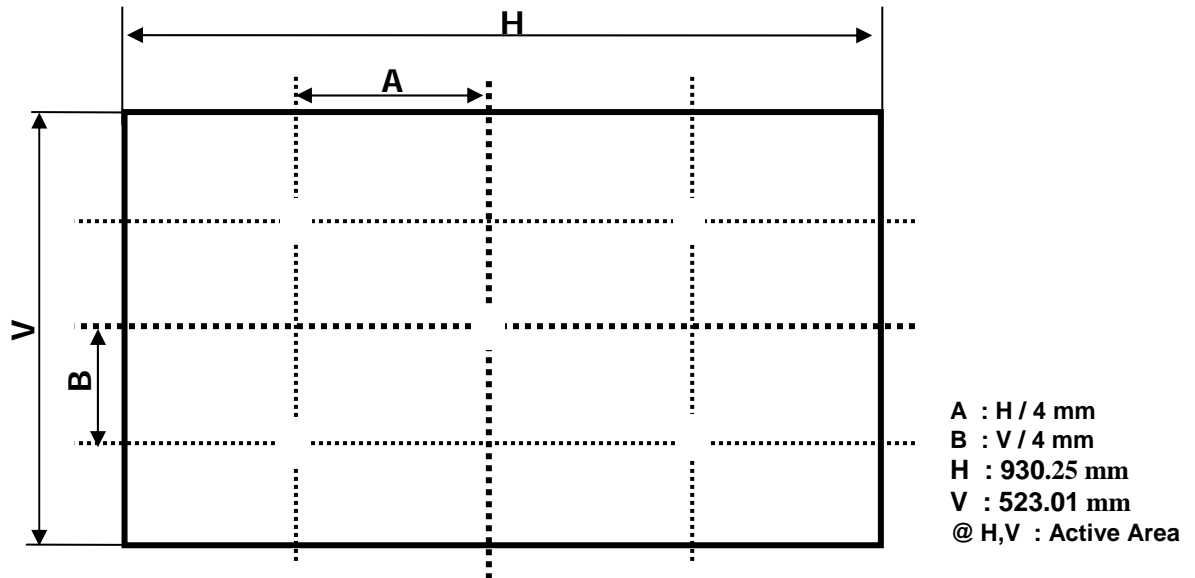

FIG.2 Measure Point for Luminance
n = the Position number(1, 2, 3, 4, 5). For more information, see FIG. 2.
2. Surface luminance are determined after the unit has been 'ON' and 30min after lighting the backlight in a dark environment at $25 \pm 2^\circ\text{C}$. Surface luminance is the luminance value at center 1-point across the LCD surface 50cm from the surface with all pixels displaying white. For more information see the FIG. 2.
For more information, see the FIG. 2.